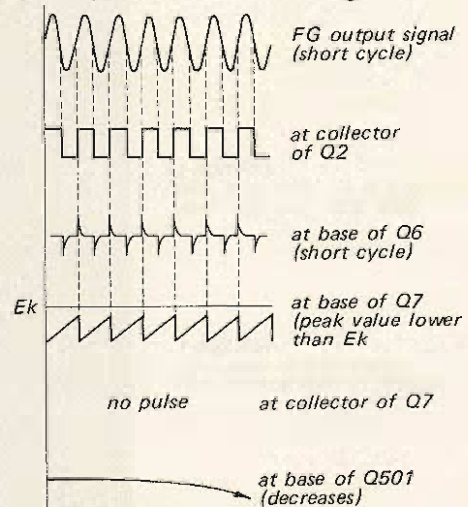

Fig. 1-5. When motor speed becomes faster
1. Motor Speed Becomes Faster (Fig. 1-5). Switching time of Q6 becomes fast as the cycle of the signal from the frequency generator is short. The collector voltage of Q6 is grounded before it becomes higher than the emitter voltage E_k (constant) because of the too short time for charging C2. The peak value of the sawtooth wave, supplied to the base of Q7, is lower than E_k . Thus Q7 is cut off, and the base voltage of Q501 is lowered as the pulse is not supplied to the base of Q9.